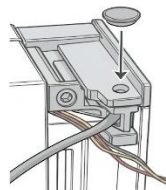

Fig 4
4. Return to the top hinge. Support the weight of the glass door with one hand so it doesn't fall. Use your tool to unscrew or depress the top hinge pin mechanism to release the upper pivot point of the door. (Fig 4)
6. Carefully pull out the internal wire harness from the upper corner slot on the new side. Thread these wires properly through the channel in the upper hinge bracket before mounting it. Align the upper hinge bracket onto the frame, ensuring the wires remain clear and un-pinched. Hand-tighten the first screw to hold it in place. (Fig 4)
4. Return to the upper corner of the cabinet. Insert your hex / Allen key into the top hinge pin screw hole. Turn it clockwise to tighten the pin completely, ensuring the top of the door is stable. Locate the small plastic cover cap. Press the cap straight into the top screw hole over the newly tightened hinge pin to hide the hardware and complete the assembly. (Fig 4)